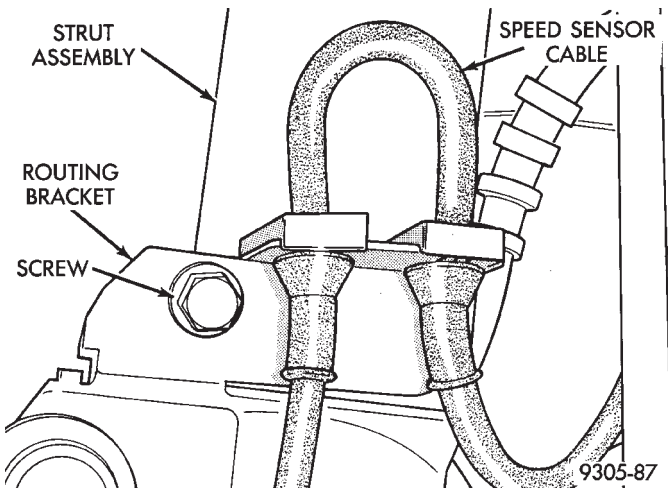

Fig. 17 Speed Sensor Cable Routing Bracket
(1) Raise vehicle on jack stands or centered on a frame contact type hoist. See Hoisting in the Lubrication and Maintenance section of this manual, for the required lifting procedure to be used for this vehicle.
(2) Remove the tire and wheel assembly from the vehicle.
(3) Remove bolt securing the speed sensor cable routing bracket (Fig. 17) to the strut assembly.
CAUTION: When installing the wheel speed sensor cable routing bracket on the strut, the speed sensor cable must be looped upward as shown (Fig. 17). If speed sensor cable is not routed in this direction it may rub, damaging the speed sensor cable.